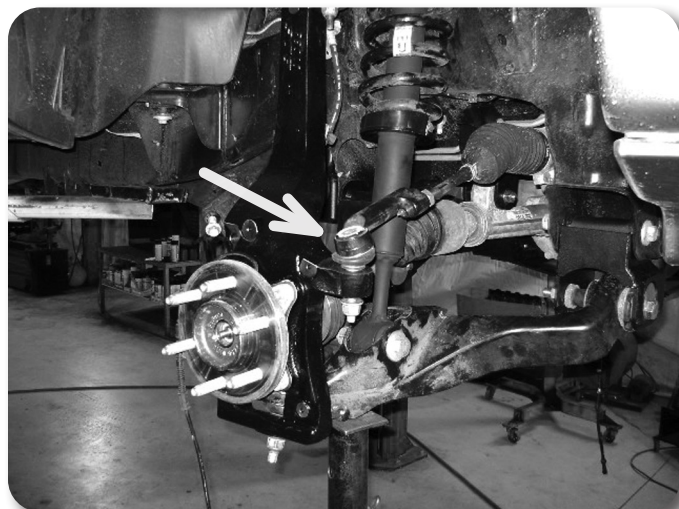

Figure 8
21. Reinstall tie rod from top-down **Figure 8**. Torque to 85 ft-lbs.